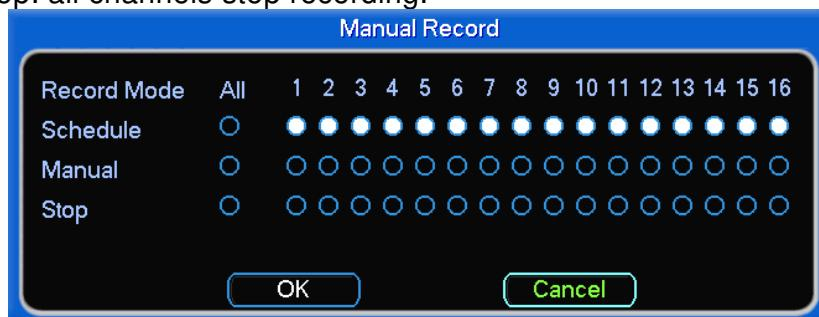

Figure 4-5
- In live viewing mode, click record button in the front panel or record button in the remote control. Manual record menu is shown as in Figure 4-5.